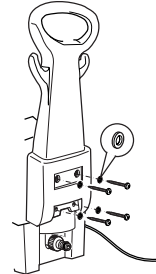

Figure 2
2. Attach black handle with enclosed screws and washers (Figure 2).